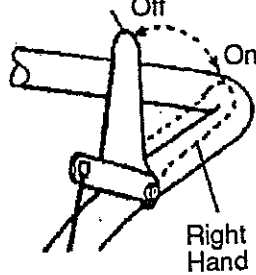

FIG. 3-OP
- To stop throwing snow, release the auger drive lever (See FIG. 3-OP).
- Engage the traction clutch lever (See FIG. 3-OP, left hand). As the snow thrower starts to move, maintain a firm hold on the handles, and guide the snow thrower along the clearing path. Do not attempt to push the snow thrower.
- Push down the auger drive lever (See FIG. 3-OP, right hand).